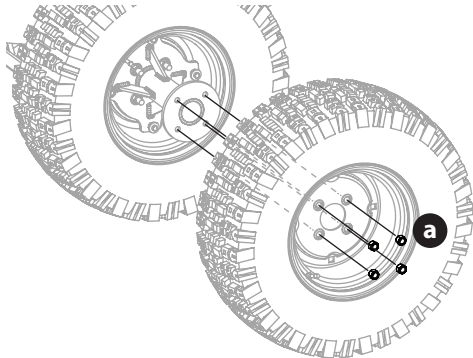

Fig. 51
1. Remove the four outer lug nuts (a) to remove the outer wheel (Fig. 51).